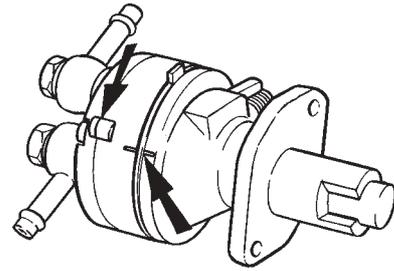

Fig. 95. Placing of markings
4. Mark up the positioning of the cover, valve housing and pump housing with two corresponding markings (fig. 95).